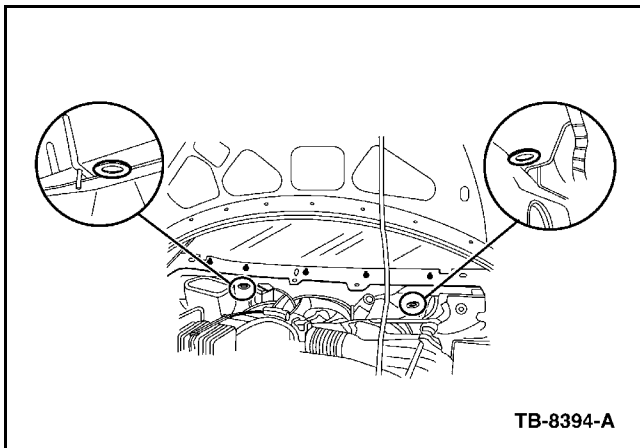

Figure 9 - Article 088-2005-5551
<< File: new figure 9.pdf >>
The new art is done for figure 9 and I have approved it. So that can be added also.
14. Remove and discard the two rubber plugs on the bottom of the cowl sheet metal (Figure 9).